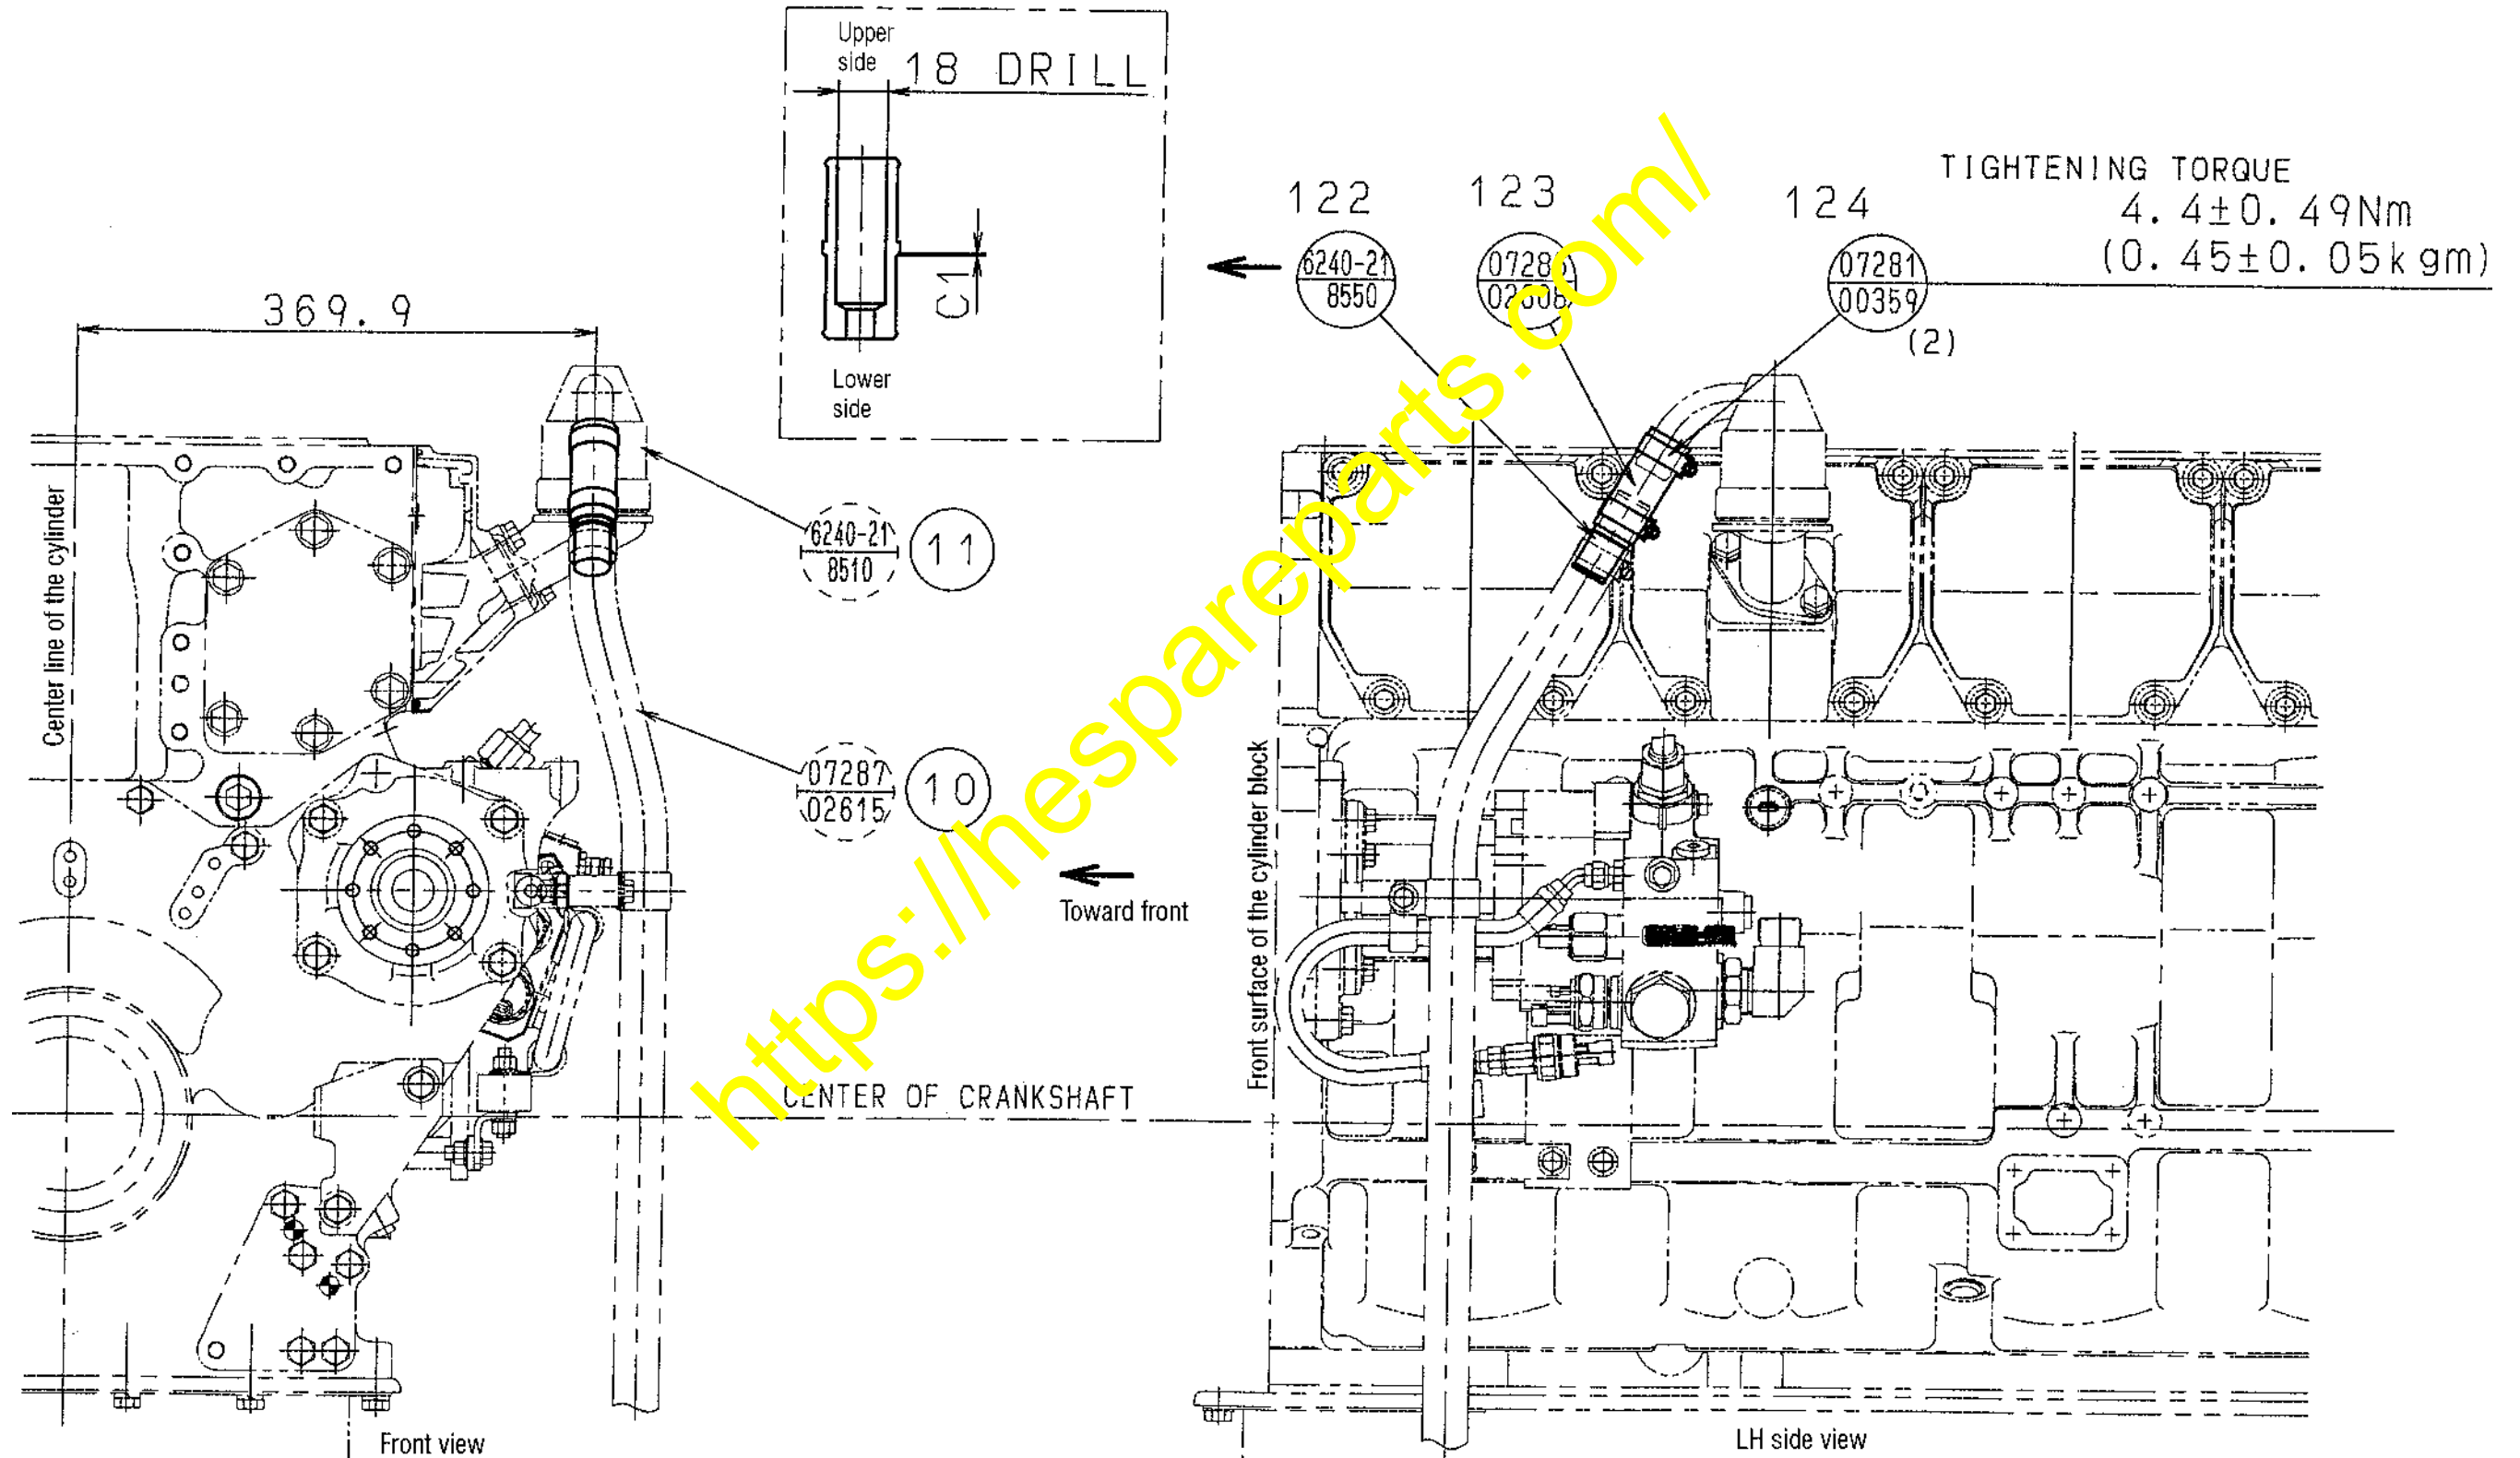

Fig. 1-4 Removal procedure for unnecessary parts before installation of the exhaust gas temperature sensor
- (1) Install the exhaust gas temperature sensor, Item No. 125 (6215-11-8280) to the section from which the plug ⑫ (6215-11-5920) was removed as per Fig. 1-4.
- (2) Install the exhaust gas temperature sensor clamp related parts (Item No. 126 thru No. 141) to the section (oil cooler mounting bolts) from which removal work was made as per Fig. 1-4.
- (3) Bind the two pieces of the exhaust gas temperature sensors Item No. 125 (6215-11-8280) by use of the band, Item No. 142 (08034-20536).